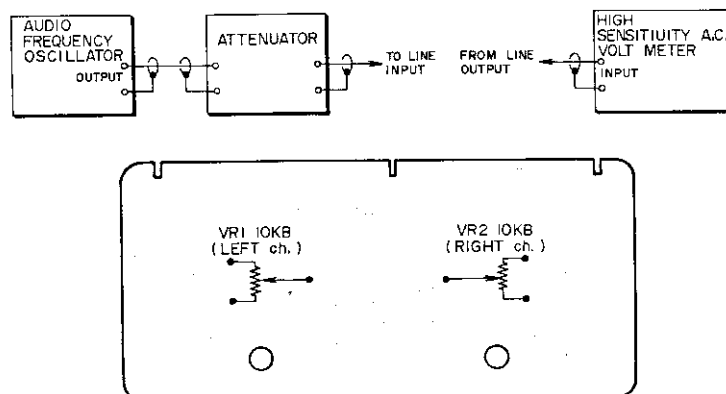

Fig. 14
##### LEVEL ADJUSTMENT (Refer to Fig. 14)
- 1) Connect measuring instruments as shown in Fig. 14 above.